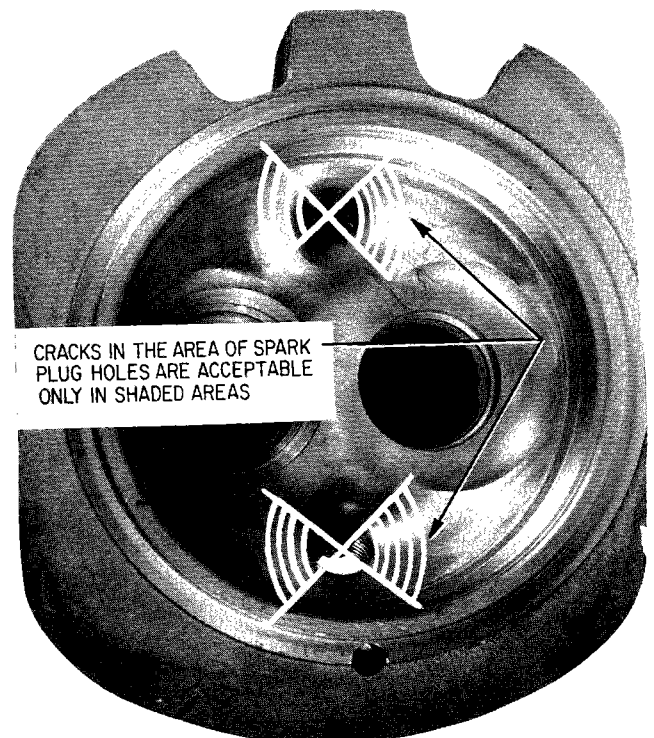

Figure 7-5. Inside View of Cylinder Head
(1) Between the 13th and 20th cylinder fin (counting from top) on exhaust port side of cylinder.
(2) The area around the lower spark plug counterbore.
3. Cylinder Head Dome Area. See figure 7-5. Cracks in the spark plug fillet radius in direction of valve seat are not acceptable. Cracks in the spark plug fillet radius, in direction away from valve seat (see shaded area in figure 7-5) are acceptable up to 1.75 inch diameter.